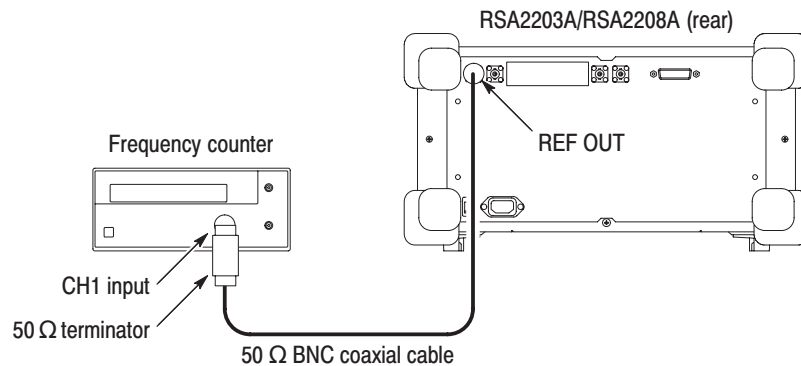

Figure 5-9: Initial test hookup
- b. *Hook up the frequency counter:* Connect **REF OUT** on the rear panel of the analyzer through a 50 Ω precision coaxial cable and a 50 Ω precision terminator to Channel 1 of the counter. See Figure 5-9.